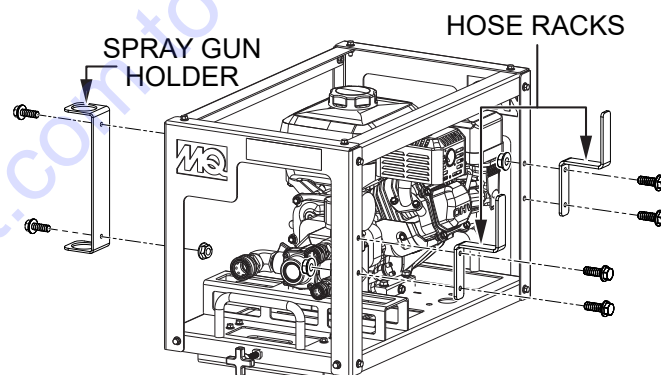

Figure 44. Barrel Mount Assembly
2. Secure the two hose racks to the barrel mount with four flange screws and flange nuts as shown in Figure 44.
3. Secure the spray gun holder to the opposite side of the barrel mount with two flange screws and flange nuts as shown in Figure 44.